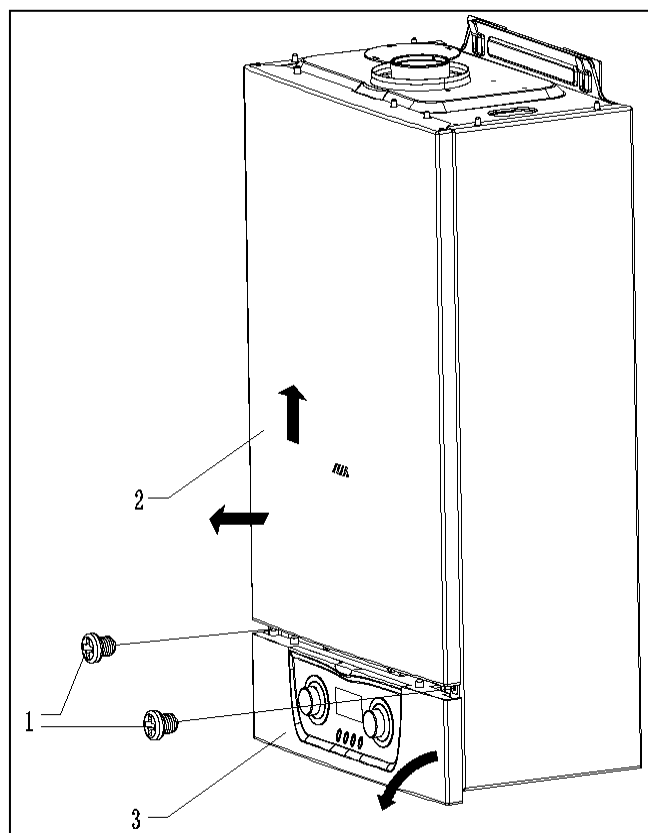

Рис. 18
- remove the screws that fix the front cover; (item 1 fig. 18);
- to remove the front cover, pull it up and out, (detail 2 fig. 18)
- fold out the control panel (detail 3 fig. 18)
fold out the control panel (detail 3 fig. 18).